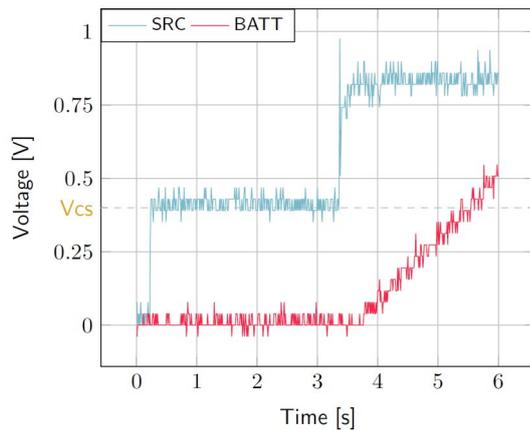

Figure 7: AEM10941 behavior during cold start
- **SRC**: Equal to the cold-start voltage during the cold-start phase. Regulated at the selected MPPT percentage of V_{OC} when cold start is over. (See Figure 7). Be careful that the cold-start phase time will shorten with the input power. Limit it to ease the observation.
- **BATT**: Starts to charge when the cold-start phase is over (see Figure 7).